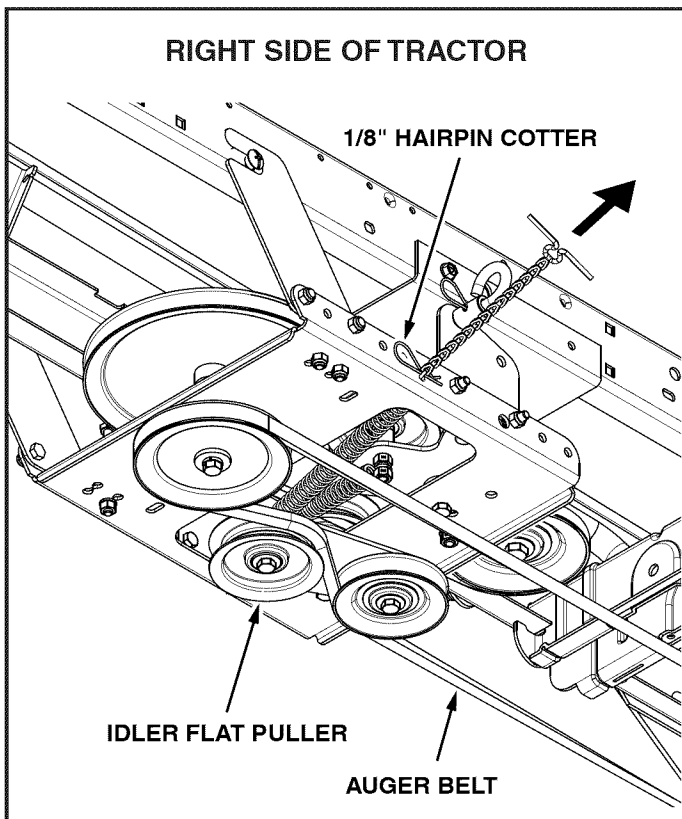

FIGURE 31 VIEWED FROM UNDERNEATH
NOTE; To prevent the chain from dragging on the ground, loop the end of the chain though the pivot lock pin. Refer to figure 31 on page 16.
STEP 33: (SEE FIGURE 31)